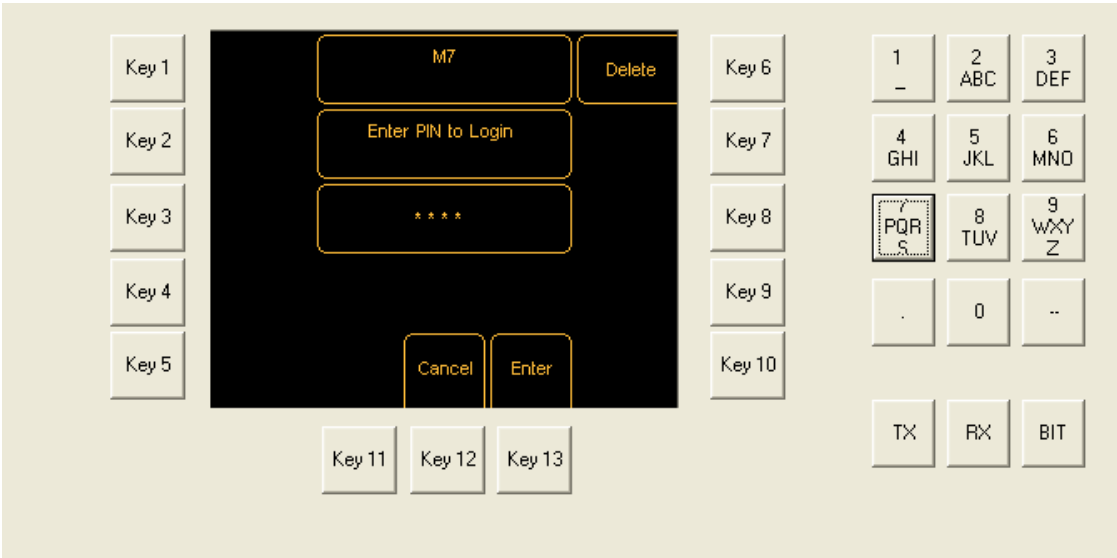

Fig 3-12 Enter PIN Number Screen
- (1) Press **Key 6 – Security Log In**.
- (2) Ensure that the Enter PIN Number Screen (Fig 3-12) is displayed.